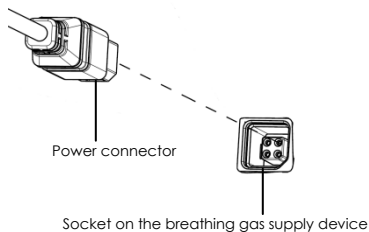

Fig. 6-1
- (1) Unpack and take out the product.
- (2) Connect the breathing gas supply device connector of heated tubing and breathing gas supply device.
- (3) Connect the power connector of heated tubing and the socket of the breathing gas supply device as shown in Fig. 6-1.